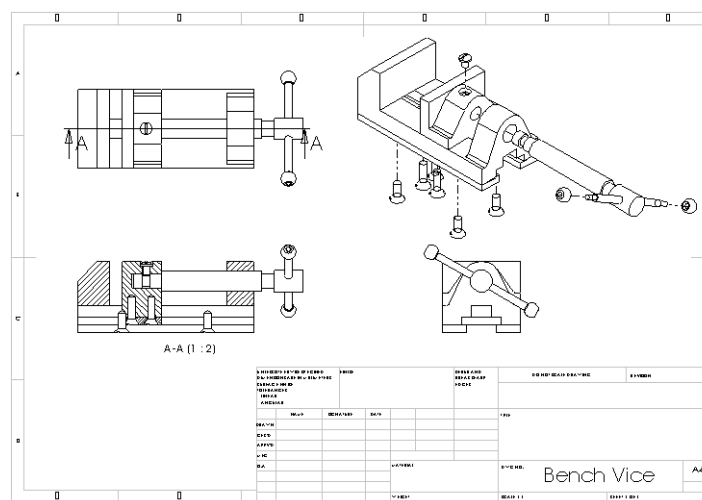

Figure 12-61 Final drawing sheet
- f. Generate the isometric view and change the state of the isometric view to the exploded state, refer to Figure 12-61.
You may need to move the view. Figure 12-61 shows the final drawing sheet after generating all the drawing views.